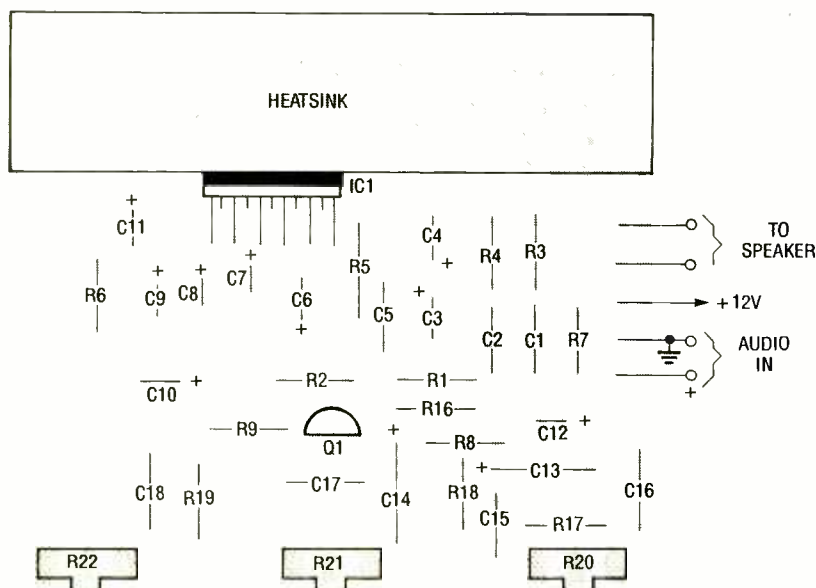

Fig. 4. This is the parts-placement diagram for the 30-watt amplifier. Solder the parts in the order that they're described in the instructions.
**Regenerative Receiver.** Our third circuit (see Fig. 4) is a solid-state version of the extremely popular tube-type regenerative receiver built by so many set builders over the years. We've replaced the tube with a 2N3904 general-purpose NPN transistor for the regeneration stage and have added a second 2N3904 for audio amplification.
In Fig. 4, Q1 is connected in a modified Hartley regenerative-detector circuit with the RF-feedback level controlled by R7, a 1000-ohm potentiometer. The RF is coupled from L2 to L1 and tuned to the desired frequency using
The parts-placement diagram (Fig. 4) shows how to connect the speaker, power supply, and input signal. (A 5-contact steel-pin connector that makes it easy to attach alligator clips to the PC board for testing is supplied with the kit.) When making permanent connections to the board from the amplifier, speakers, and power supply use 18- or 20-gauge stranded wire.